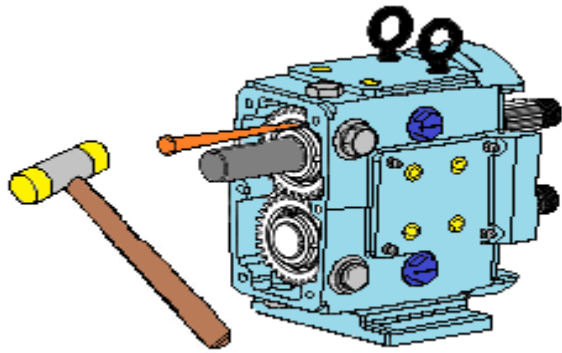

Figure 49 - Bend tabs on Lock Washers
- 6. You will need to use a hammer and a punch to bend the lock-nut tab(s) into a straight position on the lock washers., Figure 49.